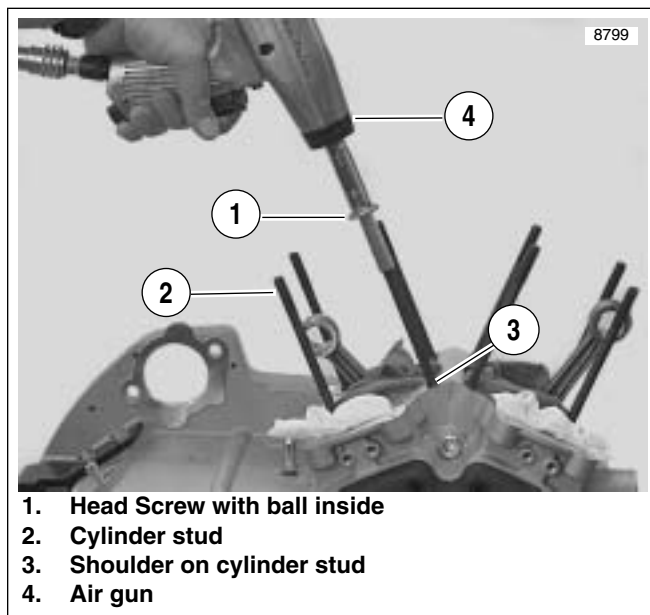

Figure 3-156. Cylinder Studs
11. See Figure 3-156. Install cylinder studs.